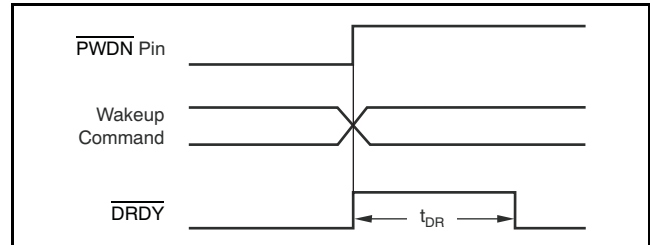

Figure 41. $\overline{\text{PWN}}$ Pin and Wake-Up Command Timing (Table 13 shows t_{DR})
In power-down, note that the device outputs remain active and the device inputs must not float. When the Standby command is sent, the SPI port and the configuration registers are kept active. Figure 41 and Table 13 show the timing.
(1) See Figure 41 and Table 13 for time to new data.